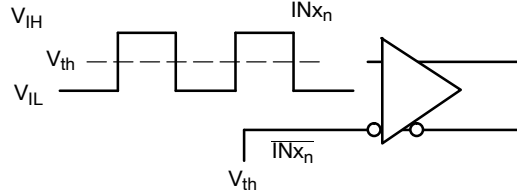
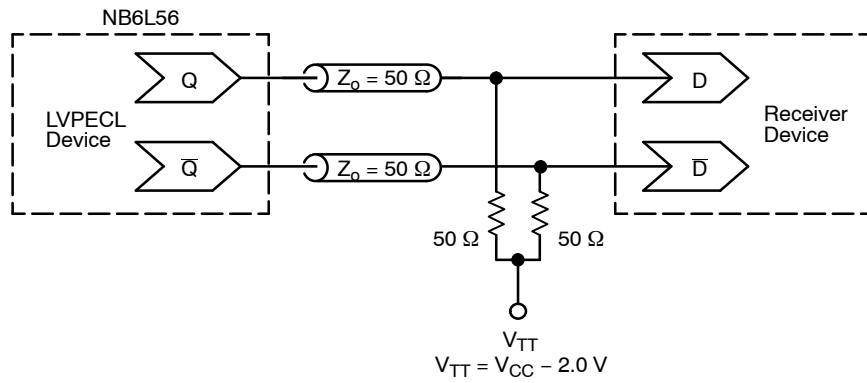

Figure 5. Differential Input Driven Single-Ended
Figure 16. Typical Termination for LVPECL Output Driver and Device Evaluation
DIFFERENTIAL INPUT DRIVEN SINGLE-ENDED (Note 6) (Figures 5 and 6)
5. Outputs evaluated with 50 Ω resistors to $V_{TT} = V_{CC} - 2.0$ V for proper operation (See Figure 16).
8. Differential 50% duty cycle at $V_{INPPmin}$ clock source. Outputs evaluated with 50 Ω resistors to $V_{TT} = V_{CC} - 2.0$ V (See Figure 16). Input crosspoint to output crosspoint for INxn/INxn̄ to Qx, Qx̄; 50% input to output crosspoint for SELx to Qx, Qx̄. See Figures 5, 10 and 11.